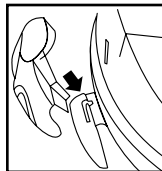

FIGURE 11
11. Place "J" shaped tabs into the slots on cord wraps **FIGURE 11.** Press down until tabs snap into place.